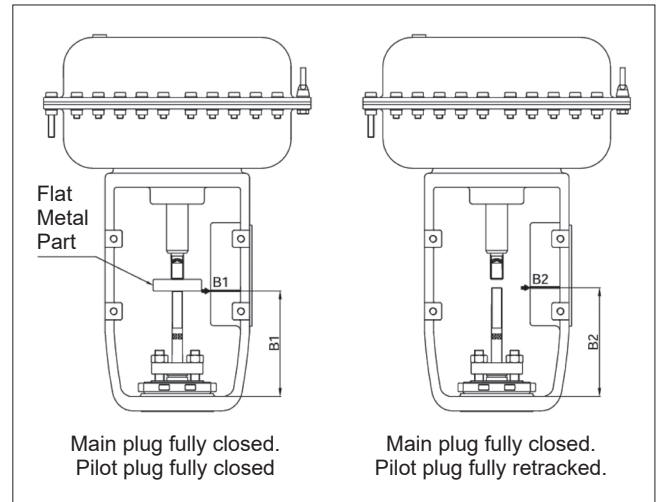

Fig. 14 How to clamp for pilot plug trim valve (1)
A. Actuator removal for Reverse <air to open, stem retract> actuator (Fig. 14)